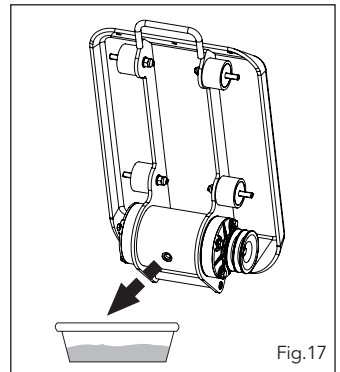

Fig.17
5. Remove the drain plug from the top of the exciter housing (9). Tilt the compacting plate (11) upside down so oil can drain from the exciter housing. Examine oil for metal chips as a precaution to future problems. (Fig. 17)